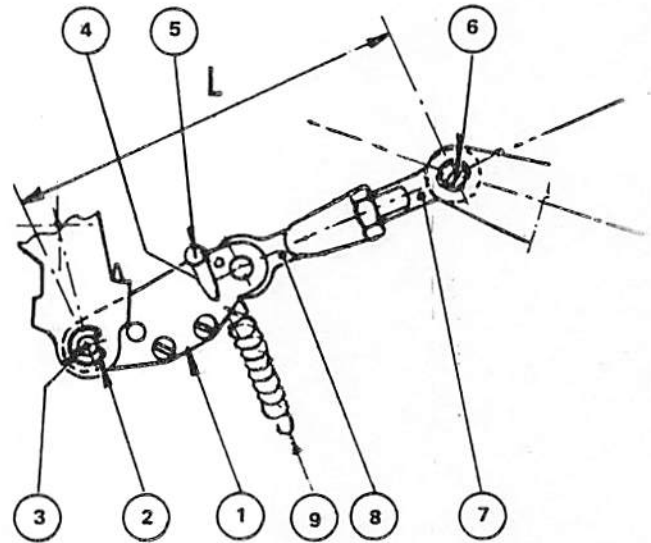

Figure 10
Fitting, Replacement and Adjustment of the Trip Latch (Fig. 10).
- (c) Charge the closing springs until the Trip Linkage system latches in the position shown, Fig. 10.
- (d) Remove the split washer (2) and slip out the pin (3).
- (e) Lift the lever (4) by operating on latch (5).
- (f) Remove the clips and washers from pin (6).
- (g) Disengage the trace reset springs (9).